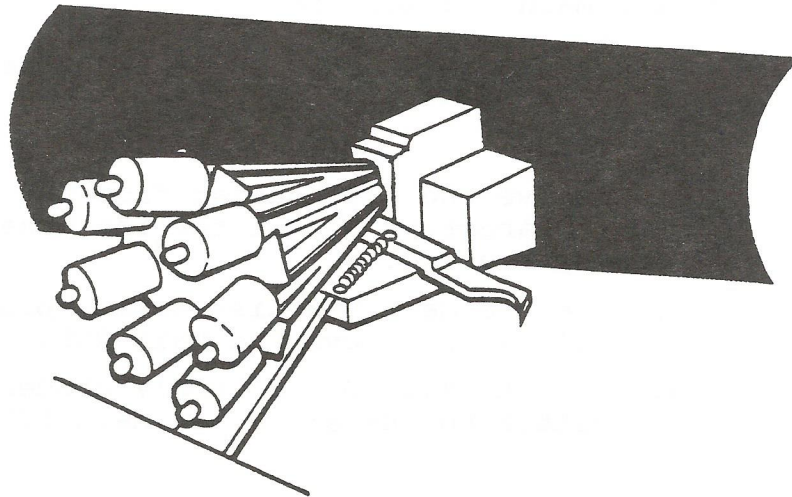
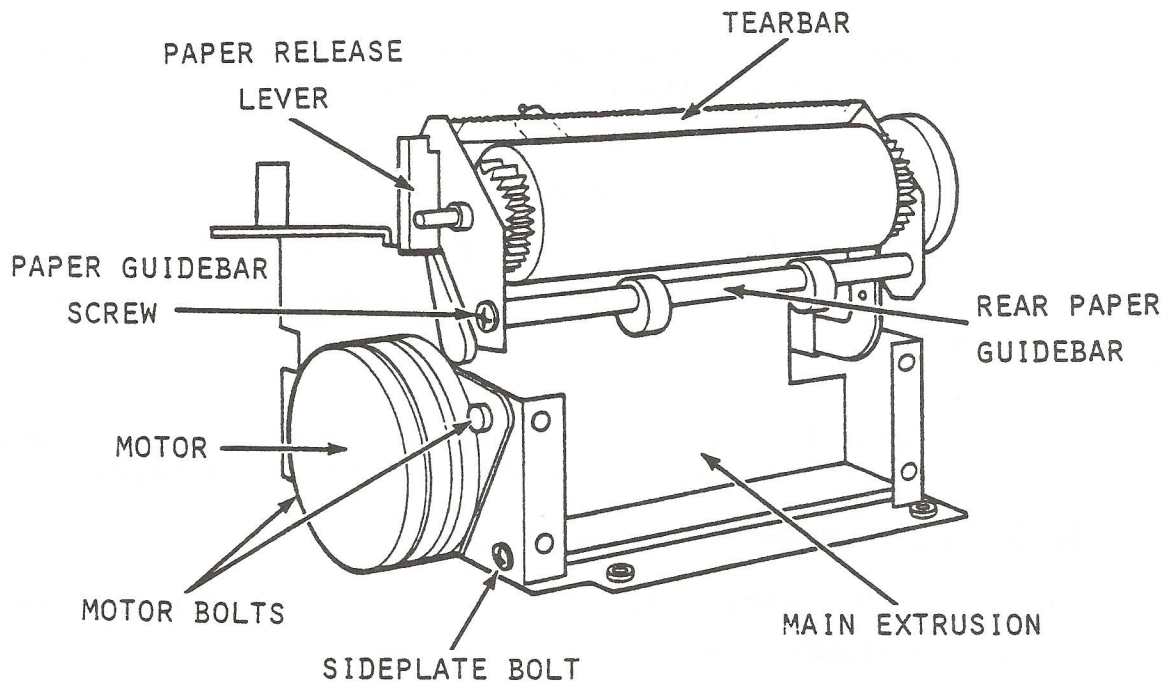

Figure 5-6. Print Head to Platen Gap
Figure 5-7. Printer Mechanism-Component Location
2. Using the feeler gauge measure the print head to platen gap at .012" to .015". (Refer to Figure 5-6)
(Refer to Figure 5-6)
(Refer to Figure 5-6 and Figure 5-7)